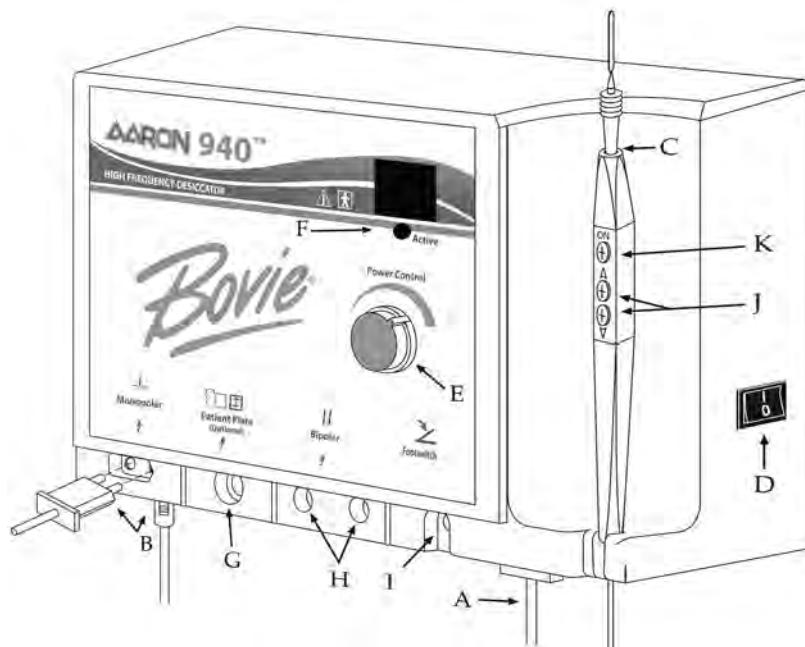

Figure 2
2. Plug the female end of the power cord into the base of the unit (see figure 2, letter A).
4. Plug the handpiece into the monopolar output on the lower left of the front on the unit (see figure 2, letter B).
receptacle on the bottom of the unit (see figure 2, letter B). The three button handpiece is designed to give the doctor complete fingertip control of the power output settings.
5. Slide the standard electrode into the handpiece until it is firmly seated (see figure 2, letter C). The handpiece will accept most standard $\frac{3}{32}$ " electrodes.
7. Turn the unit power on utilizing the switch on the right side panel of the unit (see figure 2, letter D).
8. Set the power output either by using the dial on the front of the unit (see figure 2, letter E) or on Aaron 940™ unit only by the up and down buttons on the handpiece (see figure 2, letter J). When power level adjustment is being made by the handpiece an audible tone will sound to indicate that the power level has been changed. Depressing and holding the up or down buttons will cause the power settings to change more rapidly for quick adjustment of the output settings. Power output is displayed in ".1" watt increments below 10 watts and in whole numbers from 10 to 40 watts.
9. To activate the unit, remove the handpiece from the holder. Place the handpiece in the desired position and depress the activation button (see figure 2, letter K). When the unit is activated, an audible tone is sounded and the blue active light will illuminate (see figure 2, letter F).
10. To use the optional grounding plate with cord (A802EU), insert the plug of the cord into the grounding plate output (see figure 2, letter G) and connect the other end into the grounding plate. The plate should be placed underneath the patient at a point where the entire plate is covered by bare skin.
11. To use the optional bipolar cord (A827EU), insert the plugs into the bipolar outputs (see figure 2, letter H). The cord is then plugged into the forceps. A sliding gate behind the monopolar and bipolar outputs prevents the user from using both simultaneously.
12. The optional footswitch is plugged into the footswitch output and placed on the floor (see figure 2, letter I). The footswitch can be used with monopolar procedures and must be used with bipolar procedures.